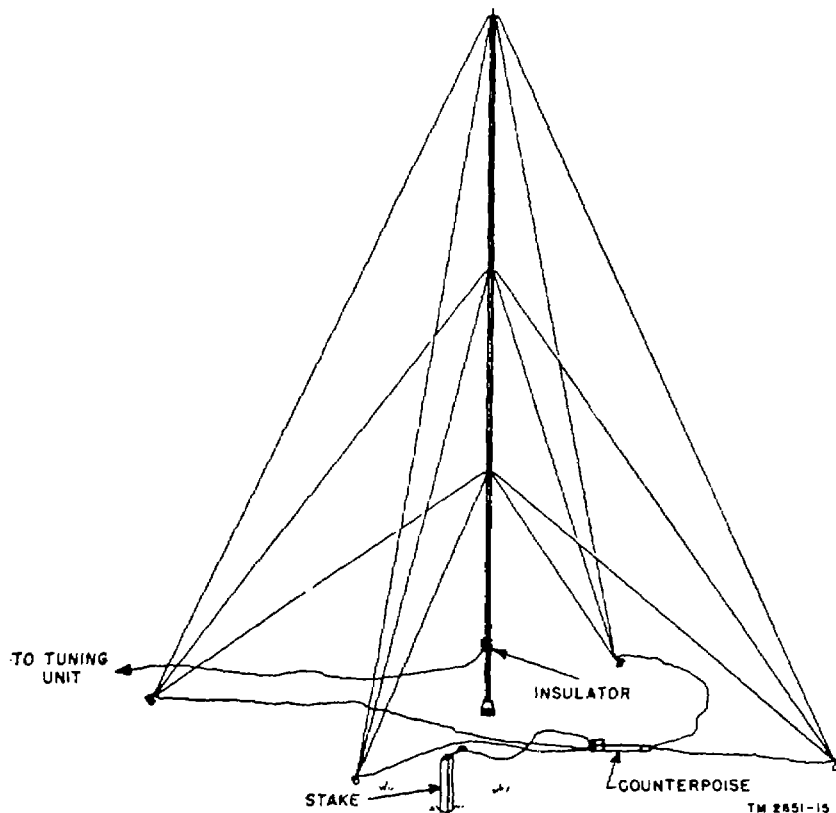

Figure 16. Mast assembly installed as a vertical radiator.
f. If the mast assembly is to be used as a vertical radiator (fig. 16), use the counterpoise. Place the counterpoise at the base of the mast assembly and attach the four radials to the stakes. Connect the lead-in wire of the counterpoise to a good ground. The binding post of the tuning unit or the ground used with the associated radio set may be used. If available, a long metal stake driven into the ground can be used. Attach the lead-in wire from the radio set or tuning unit to the binding post on the top of the base insulator.